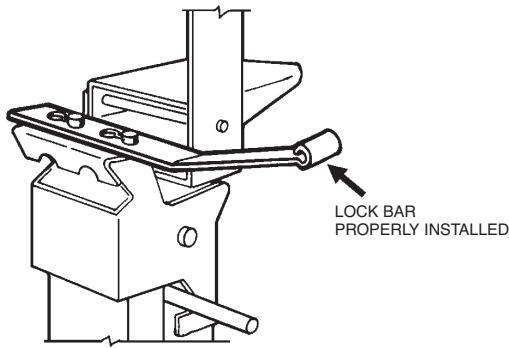

FIGURE 33
12. Remove cocking lever and insert lock bar (Part No. 14985) on left side of the cable lever, over the two shouldered projecting stud extensions, and slide bar forward into locking position. (The release mechanism cannot be actuated, nor can enclosure cover be replaced until the lock bar is removed.) See Figure 33.